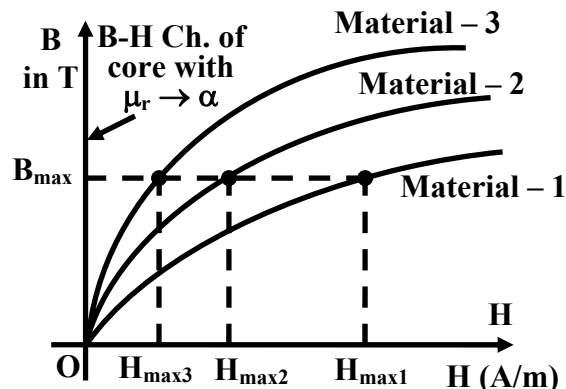

Figure 23.3: Estimating current drawn for different core materials.
To elaborate this, let us consider a magnetic circuit with  $N$  number of turns and core section area  $A$  with mean length  $l$ . Let material-3 be used to construct the core whose B-H characteristic shown in figure 23.3. Now the question is: if we apply a voltage  $V$  at frequency  $f$ , how much current will be drawn by the coil? We follow the following steps to arrive at the answer.
2. Corresponding to this  $B_{\max}$ , obtain the value of  $H_{\max 3}$  from the B-H characteristic of the material-3 (figure 23.3).
By following the above steps, one could also estimate the exciting currents ( $I_2$  or  $I_3$ ) drawn by the coil if the core material were replaced by material-2 or by material-3 with other things remaining same. Obviously current needed, to establish a flux of  $B_{\max}$  is lowest for material-3. Finally note that if the core material is such that  $\mu_r \rightarrow \infty$ , the B-H characteristic of this ideal core material will be the B axis itself as shown by the thick line in figure 23.3 which means that for such an ideal core material current needed is practically zero to establish any  $B_{\max}$  in the core.